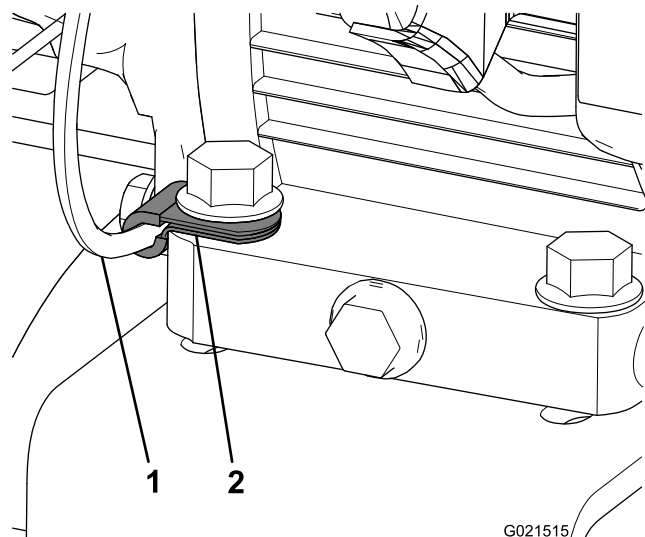

Figure 5
21. Attach the new clip to the throttle cable and bolt it to the engine conversion mounting bracket with the remaining bolt (Figure 5).